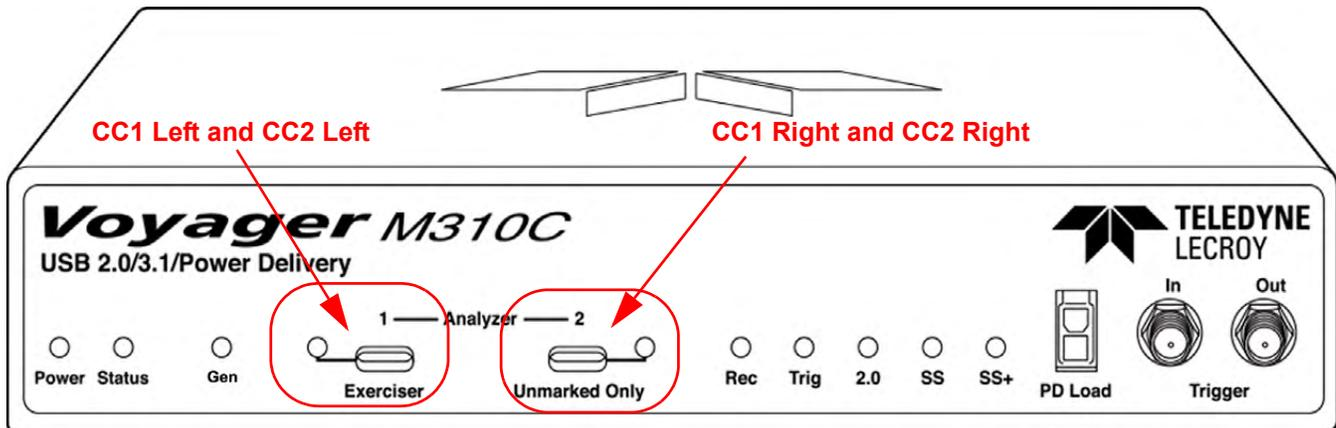

Figure 9.56: Voyager M310C: Front Panel View
9.13.2 Configuration Channel (CC) Power Tracker
The USB Type C cable supports two Configuration Channel (CC) pins: CC1 and CC2. The Voyager M310C has two Type C connections: one on the left of the front panel (Connector 1) and one to the right (Connector 2). See Figure 9.56.